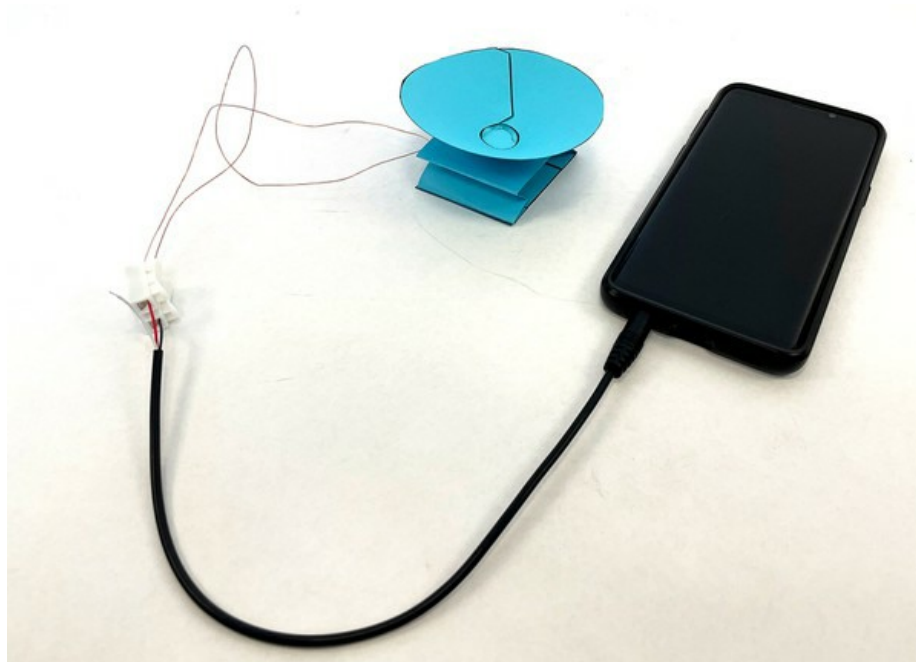

Figure 22. Completed project setup with speaker ready to play music.
21) Make sure the volume on your device is all the way up, and try playing some music (Figure 22)!